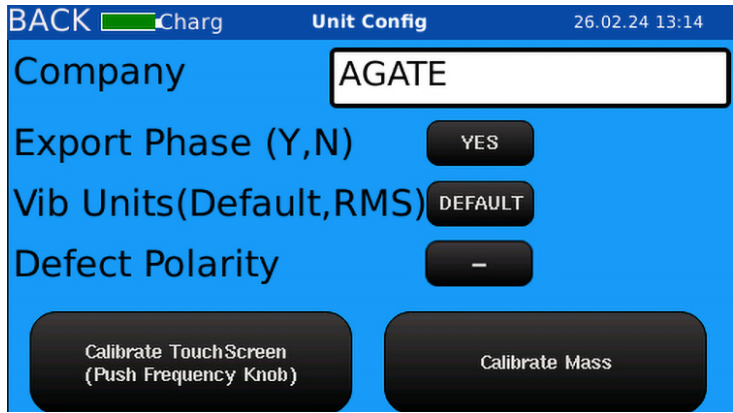

Figure 71. Select the Calibrate Mass button
- 1. On the Unit Configuration screen, select the **Calibrate TouchScreen button** (*Figure 71*)).
- 1. On the Unit Configuration screen, select the **Calibrate Mass button** (Figure 71).